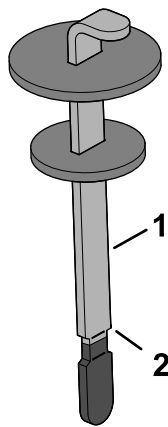

**Figure 169**
4. Remove the dipstick from the filler neck and wipe it with a clean rag. Insert the dipstick into the filler neck; then remove it and check the level of the fluid. The fluid level should be up to the mark on the dipstick (Figure 169).